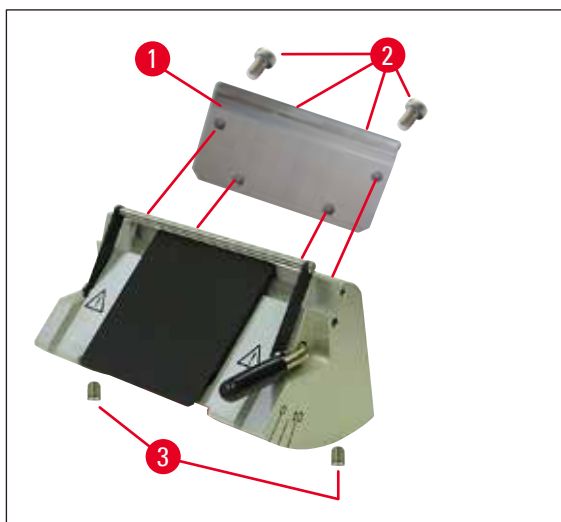
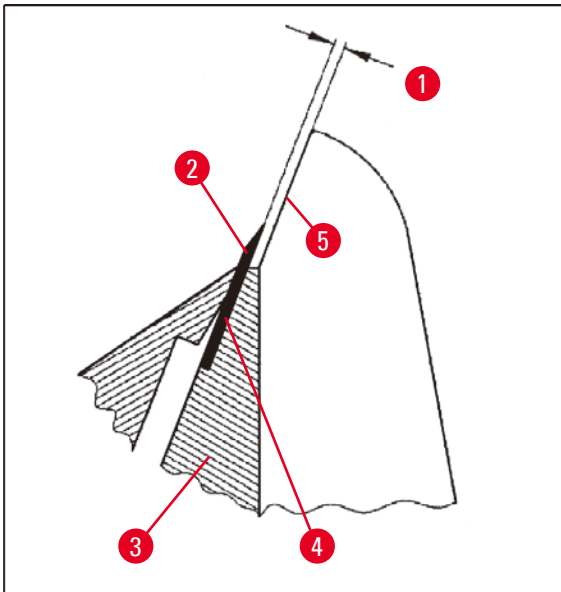

Fig. 34
Fig. 35
- When performing the installation, make sure that the upper edge of the pressure plate (→ Fig. 40-4) is parallel and level with the upper edge of the rear pressure plate (→ Fig. 40-2) (see also (→ p. 45 – Fig. 34), (→ p. 46 – Fig. 35)). If necessary, adjust the pressure plates (→ p. 49 – 5.9.10 Overview – accessories).